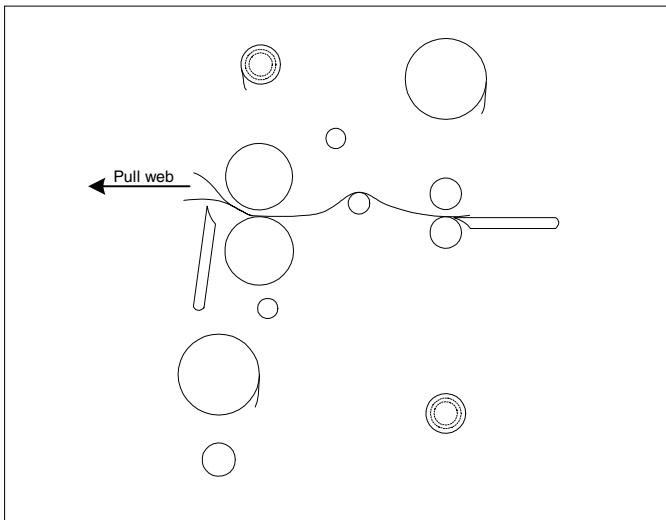

Fig. 33
6. Carefully grab hold of the web (top and bottom film), from the front operating position and pull towards you (Figure 33).